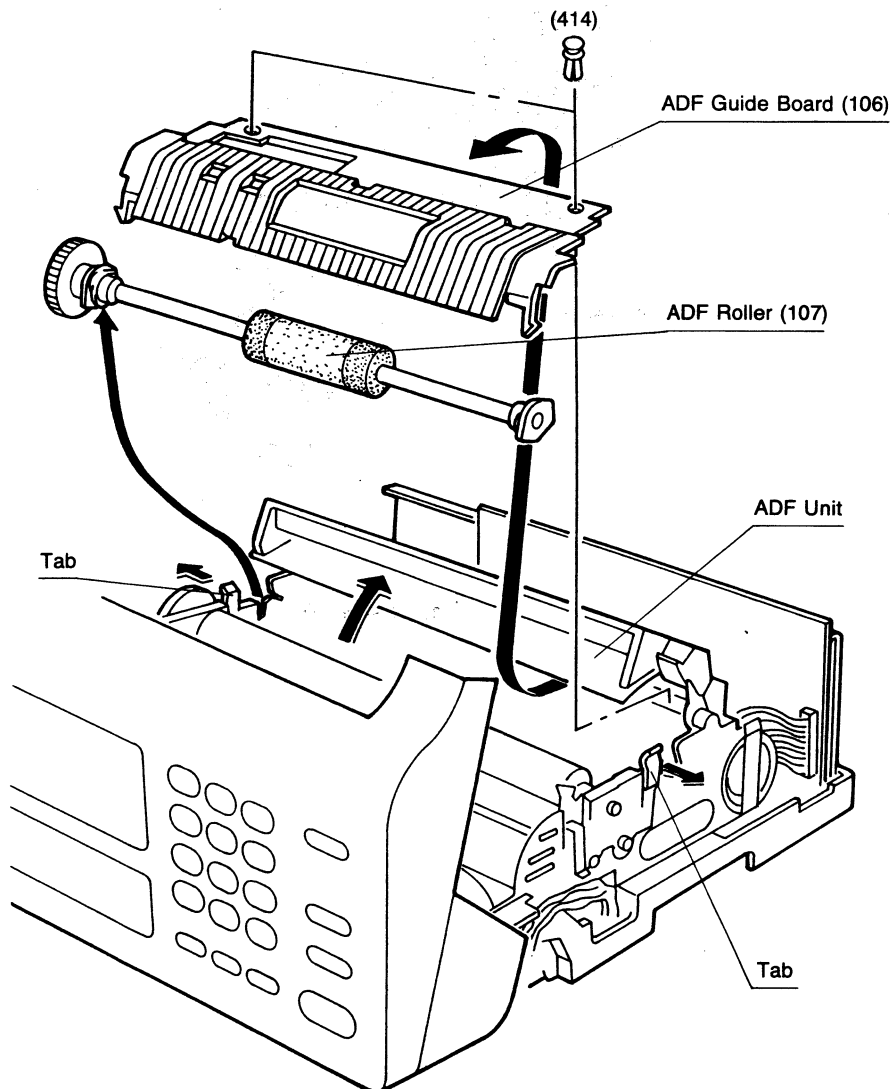

Figure 4.3.9
- (5) Remove the ADF roller (107), (See Figure 4.3.9).